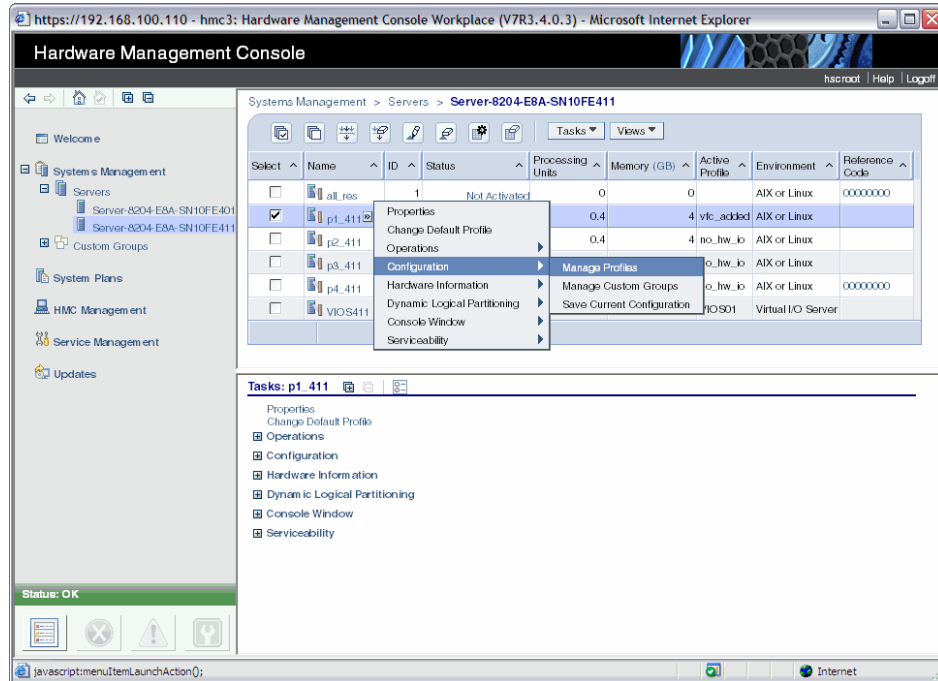

Figure 7-6 Change profile to add virtual Fibre Channel client adapter
- a. Select the client partition on which the virtual Fibre Channel adapter is to be configured. Then select **Tasks** ∅ **Configuration** ∅ **Manage Profiles**, as in Figure 7-6.